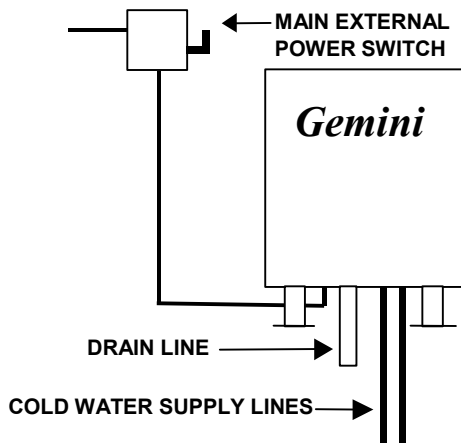

Figure 2-6, Recommended Electrical Layout
- c. A main disconnect switch and a separate fuse or breaker should be installed near the unit as shown in Figure 2-6. See Figure 2-1 or 2-2 for the steamers power requirements. Throughout the remainder of this manual the fused disconnect switch is referred to as the main external power switch.